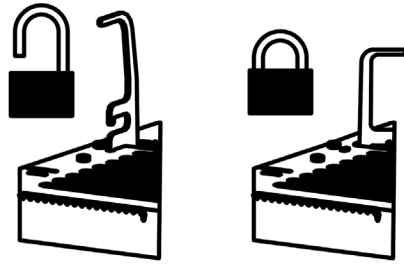

Figure 9 - Loader swing lock mechanism
It will snap down (for the locked position see *Figure 9 on page 49*).
4. Lock the swing mechanism by pulling the lock handle forward and releasing it. It will snap down (for the locked position see *Figure 9 on page 49*).